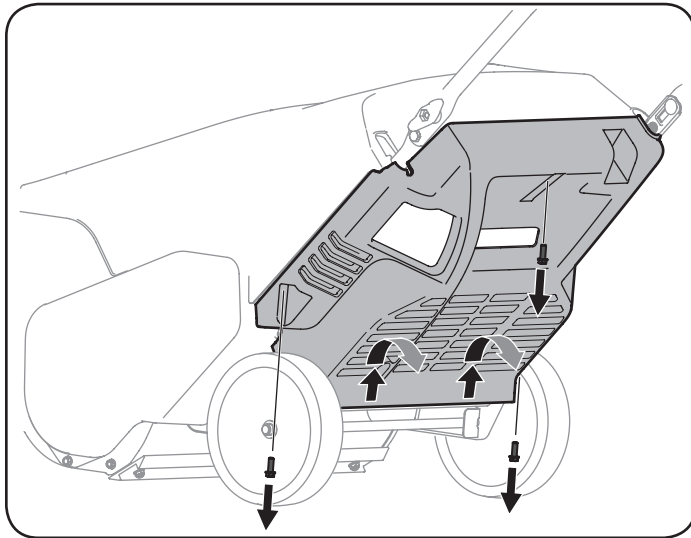

Figure 7
2. Remove the three screws that secure the lower panel on model 247.887802*. Remove the lower panel by lifting up on the panel to free the tabs at the bottom of the panel from the tab slots and then pull back. See Figure 7.